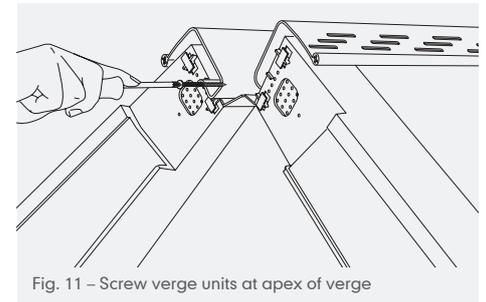

Fig. 11 – Screw verge units at apex of verge
- 11 At apex of roof, where battens are located, retain top course dry verge unit by securing a 30mm long screw (supplied in the fixing kit) into second series of holes in verge unit and locate it behind nib section of dry ridge batten (Fig. 11).